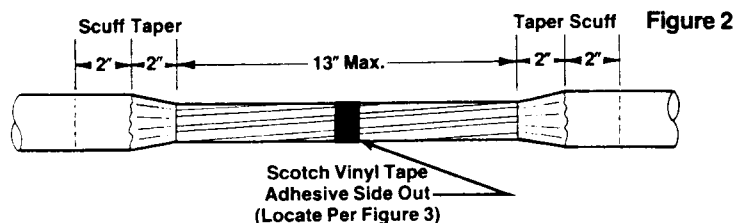

Figure 2
2. Remove entire cable jacket from repair area, for a length not exceeding 13" (330 mm). (Figure 2)
3. *FULLY* taper jacket ends for 2" (50 mm). (Figure 2)
4. *THOROUGHLY* scuff jacket for 2" (50 mm) beyond taper. Clean dust from scuffed area. (Figure 2)
6. Bind conductors together with band(s) of *IN-VERTED* vinyl tape (adhesive side out), located per Spacer Web positions shown in Figure 3. (Figure 2)